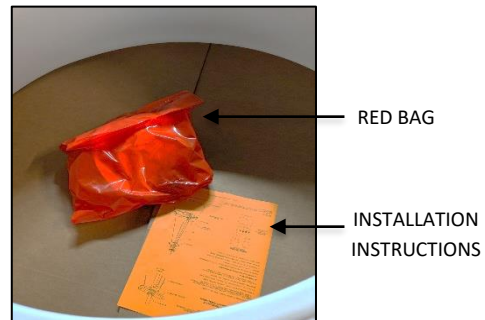

FIG. 3 - RED BAG AND
2. INSTALLATION INSTRUCTIONS (shown in FIG. 3) - Please completely read the install instructions before starting installation.
3. RED BAG (shown in FIG. 3) contains below following items